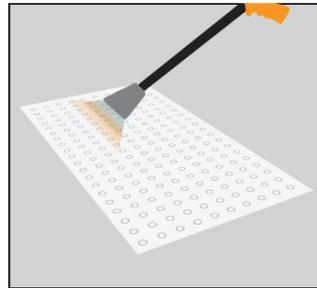
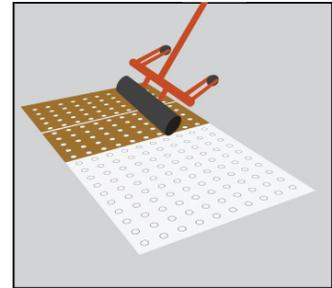

Figure 15: Heat the next 4 sq. ft. section.
Figure 16: Roll the next 4 sq. ft. section.
5. **Heat additional domed section:** Once rolling is completed, use your gloved hands to slowly remove the holed corrugated inserts from the domed section ensuring that the inserts do not adhere to any excess bonder paste. Discard the used holed corrugated inserts. **Note: Do not re-use holed corrugated inserts.** Heat the next domed section using the procedure described in Step 3 being careful to direct the flame away from the previously heated domed section. (See Figure 15). Roll the domed section as described in Step 4. (See Figure 16). Continue this pattern of alternately heating and rolling until all the domed sheets for the entire application area have been heated and rolled.